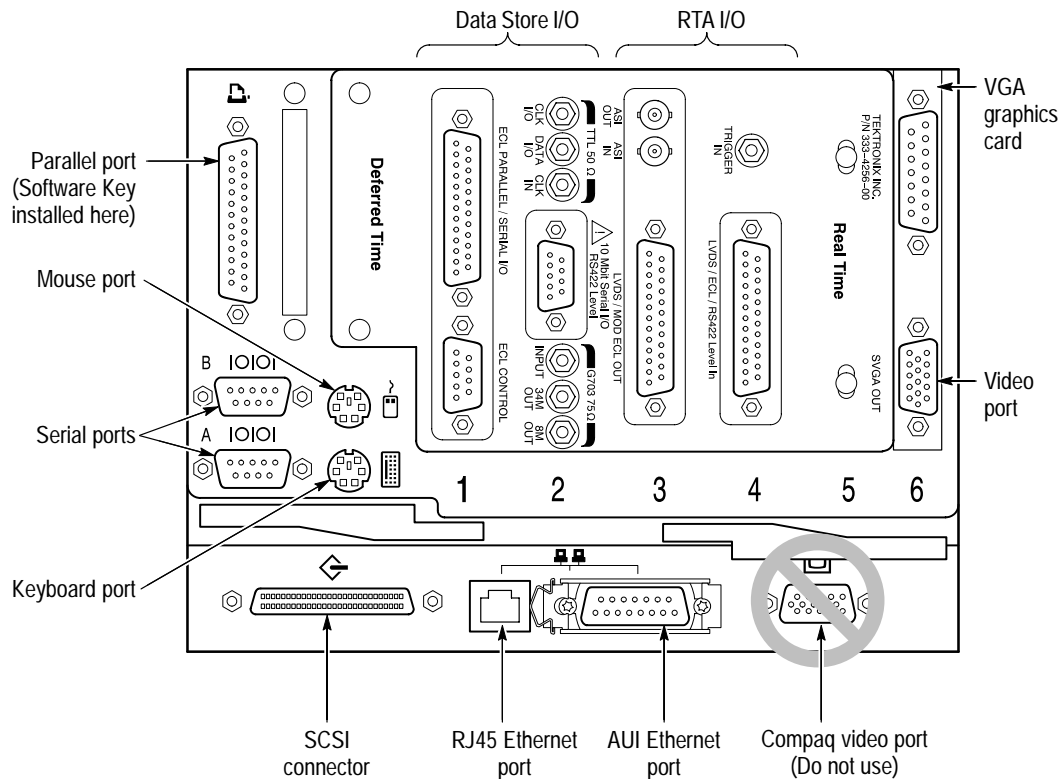

Figure 4: Computer rear view showing input and output connectors
3. Connect the keyboard to the rear panel keyboard port. See Figure 4.
4. Connect the mouse to the rear panel mouse port. See Figure 4.
5. Connect the monitor cable to the rear panel video port on the VGA graphics card. The graphics card occupies expansion slot 6 as shown in Figure 4. Do not use the Compaq built in video port; the built in video port is disabled.
6. Verify that the Software Key is installed on the rear panel Parallel port (the Software Key should already be installed); see Figure 4 for port location. MTS 200 Series software applications will not run without the Software Key installed; do not remove or misplace the Software Key.